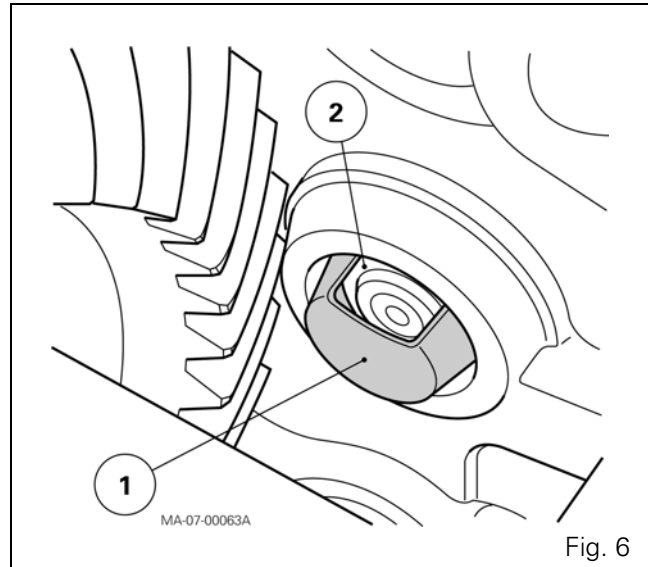

Fig. 6
29. Lightly smear the oil slave device (1) with Loctite 648 or equivalent on the face turned towards the centre housing. Insert the slave device with its open end facing up (Fig. 6).
30. Insert the bearing (2) into the housing thrust up against the oil slave device (1) (Fig. 6).